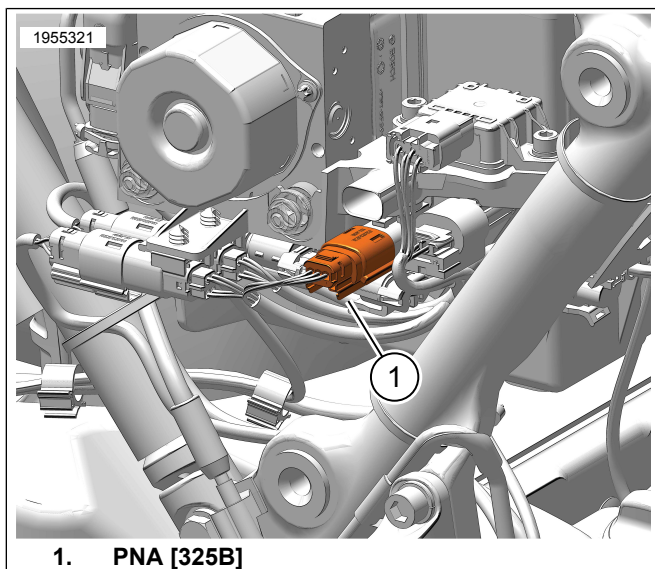

Figure 10. Vehicle's PNA Connector for NON Center-Cooled Vehicles
- b. Release upper oil line hose spring clamp (1) and remove upper oil line hose only from head.
- c. Remove oil line hose spring clamp (1) from hose.
- d. Insert cover over rear oil line hose (2). Position cover 1 in (25.4 mm) from upper spring clamp on rear oil line hose.
- f. With spring clamp loose, rotate hose for maximum clearance between fan housing and oil line hose cover (3).
- a. See Figure 10. Locate 3-way P&A [325B] (1) under right side cover and disconnect.